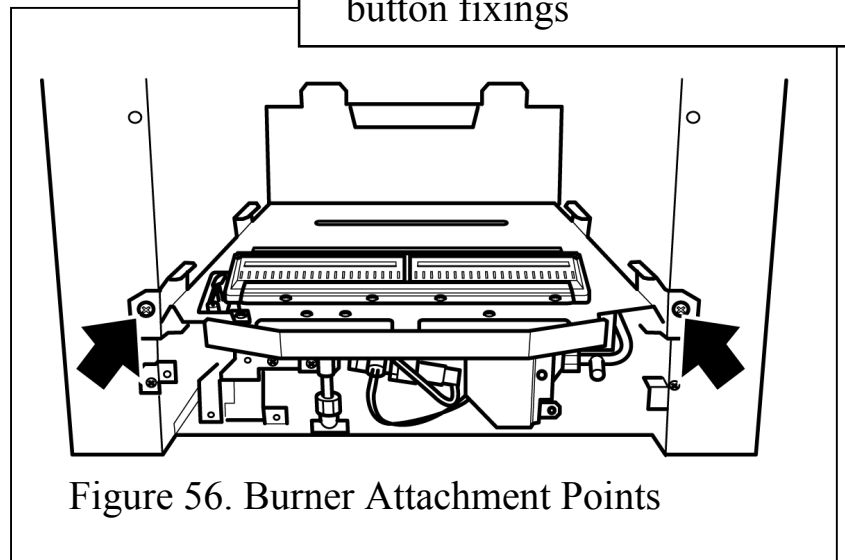

Figure 56. Burner Attachment Points
4. Detach the burner unit from the hotbox by removing two screws - See figure 56.